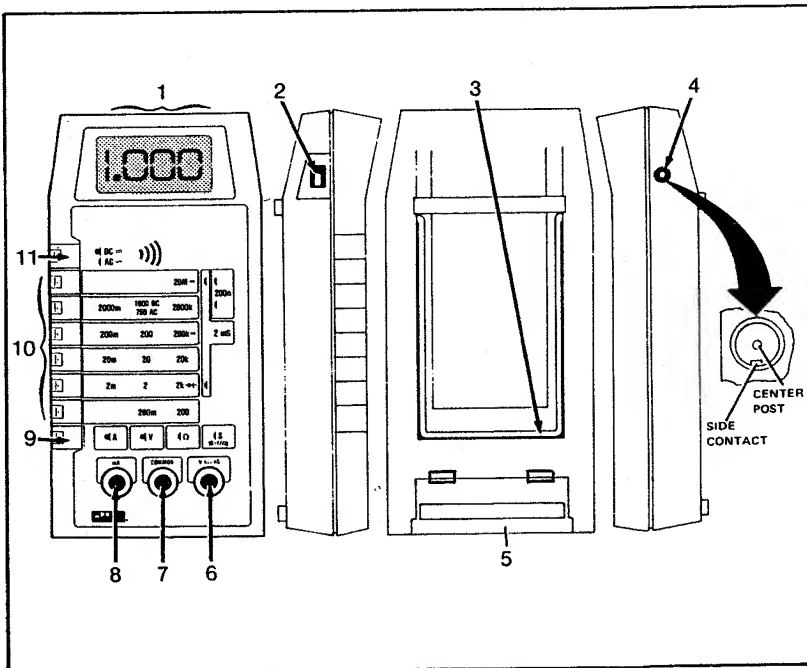

Figure 1-3. Controls, Indicators and Connectors
1-10. Before using your 8020B we suggest that you take a few minutes to get acquainted with your instrument. All of the externally accessible physical features of the 8020B are shown in Figure 1-3 and described in Table 1-1. Locate each feature on your 8020B as you read the description.
6. Look inside of the battery eliminator connector on the right side of the 8020B and locate the connector contacts (center post and side contact as shown in Figure 1-3).